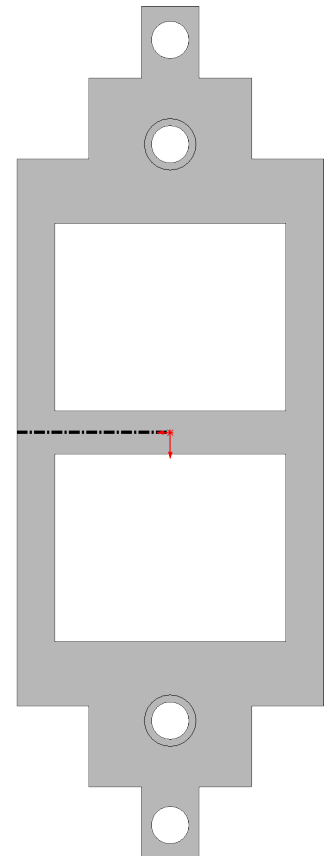

Fig. 35
Step 4. Sketch **horizontal centerline** from Origin  , **Fig. 35**.